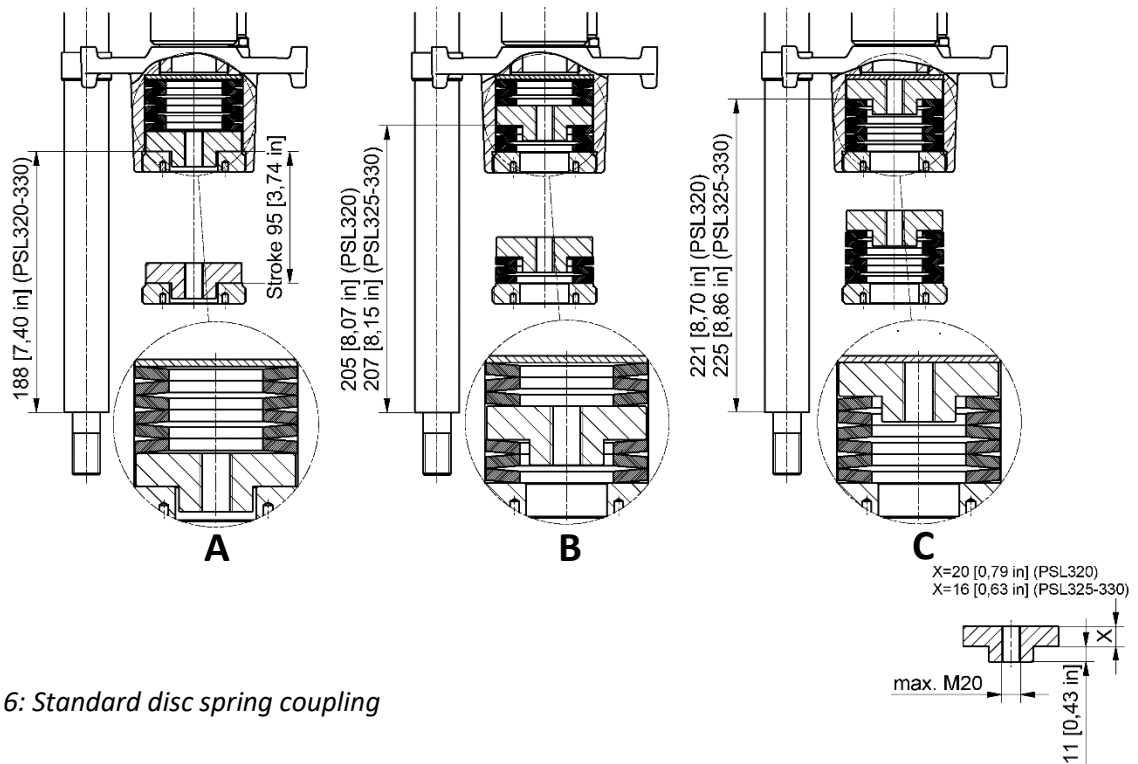

Figure 6: Standard disc spring coupling
- Unscrew the locking nut (item 5) from the spindle nut (item 1) and slide it over the valve stem (item 9).
- See if the bore of the coupling piece (item 3) fits the valve stem. If necessary, rebores and/or recut the thread.
- Slide or screw the coupling piece onto the valve stem and bore or pin to the valve stem. You may also secure the coupling piece by using a counter nut (item 4) (Lay the cup springs according to Figure 6 on page 10).
- Slide the pillars into the bore holes of the mounting bracket (item 6) and tighten with the pillar nuts (item 7).
- A: Arrangement for a through-valve with "Valve stem retracting" as direction of closing (Figure 6).
- B: Arrangement for a 3-way valve (Figure 6).
- C: Arrangement for a through valve with "Valve stem extending" as direction of closing (Figure 6).